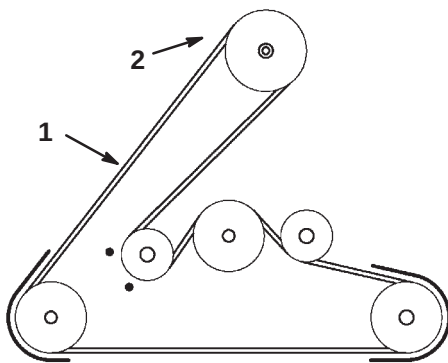

Figure 20
12. Remove the mower belt from the electric clutch pulley (Fig. 20).